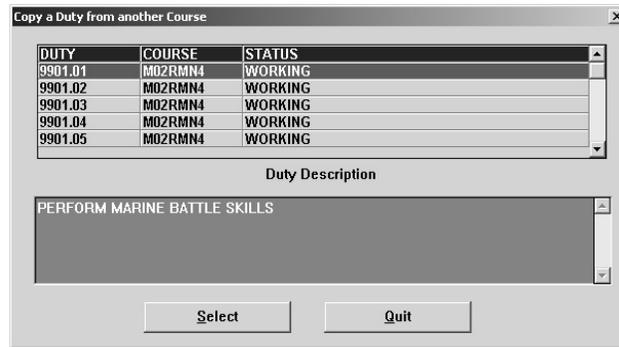

Figure 6-27. Copy a Duty From Another Course
- Choose the desired course and click on **S**elect. The Copy a Duty From Another Course selection list box (Figure 6-27) opens. Note that the title of the highlighted duty is depicted in the field below the list of duties.